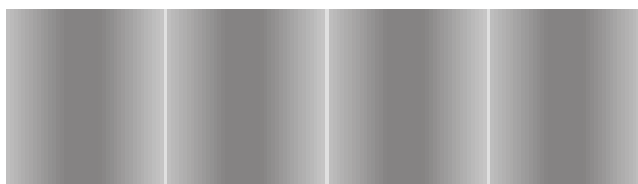

Figure 3-13: Test Image One
- If the camera is set for an exposure mode that uses an ExSync signal, the ExSync signal must be present and must toggle in order to output a line on the test image. Multiple transitions of the ExSync signal will produce a two dimensional image as shown in Figure 3-13 or Figure 3-15.